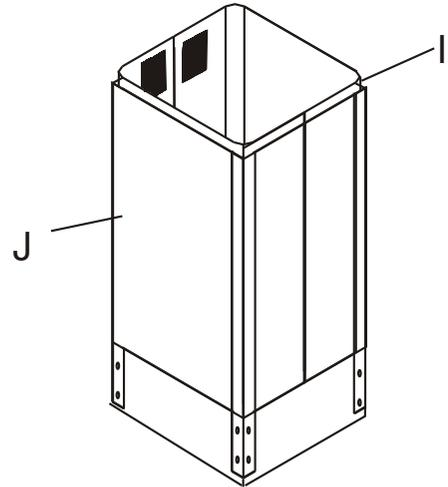

Figure 4.1
- 5- Pass chimneys (I,J) over motor block (Abb. 4.1).